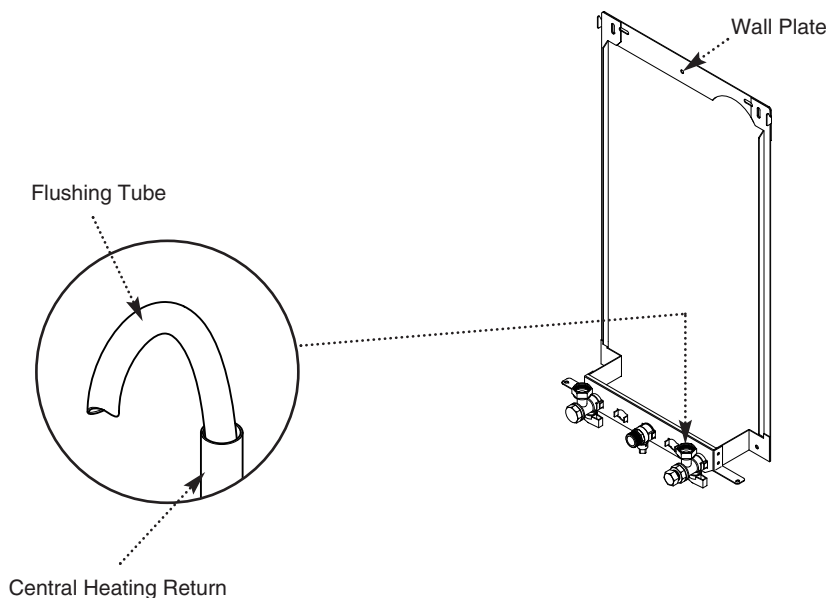

Fig. 15
1. Connect a tube to the central heating flow or return pipe (Fig. 15).